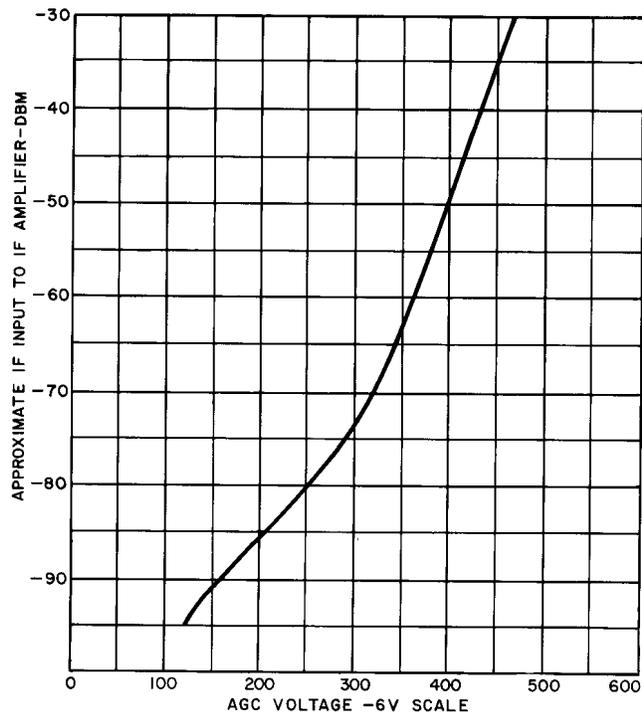

Fig. 1—TL-1 Receiver—Typical AGC Characteristics—Graph
- 2 Refer to the curve of Fig. 1 to obtain the approximate input level to the receiver modulator.
7	<p>Restore the circuit to normal and observe on the AGC, IF frequency, and automatic frequency control (AFC) meter that the receiver beat-oscillator klystron is locked on the incoming signal.</p> <p>It is suggested that an accurate plot be made for each IF and baseband unit similar to the typical curve of Fig. 1. This would be done following the procedure above for test set outputs from -90 dBm to -35 dBm.</p>